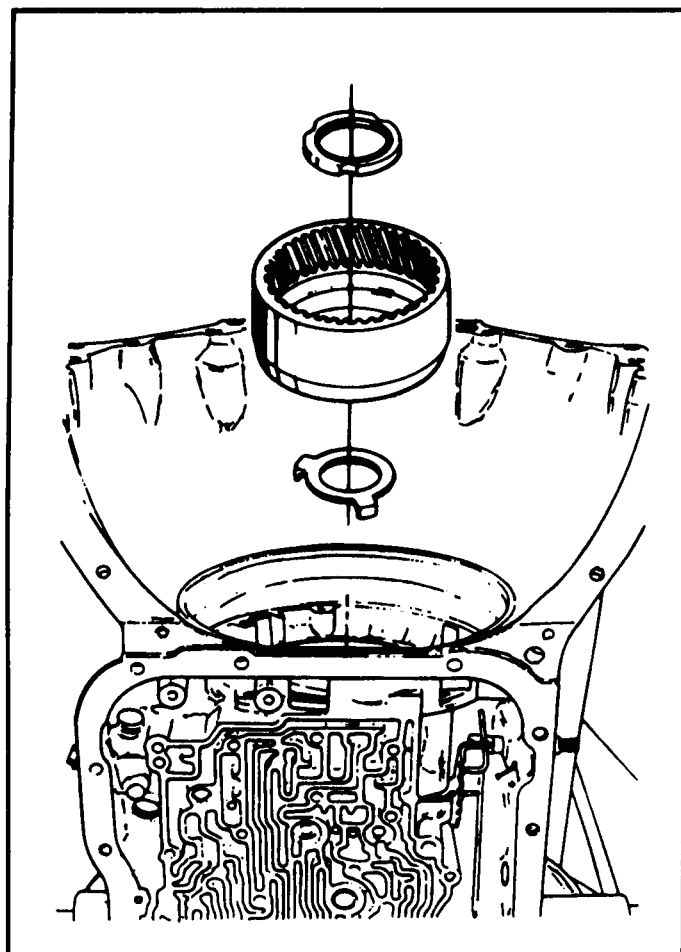

Figure 123
32. Install the tanged thrust washer on the center support in the transmission and retain with a small amount of "Trans-Jel" (See Figure 123).
33. Install the overdrive ring gear in transmission as shown in Figure 123.
34. Install thrust bearing into the overdrive ring gear, as shown in Figure 123.